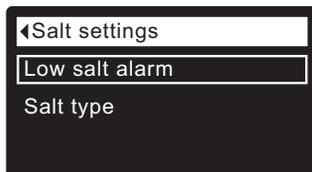

FIG. 36
3. Press the SELECT (O) button to display the Salt settings menu (See Figure 36).
7. Press the SELECT (O) button. The display will go back to the Salt settings menu (Figure 36).